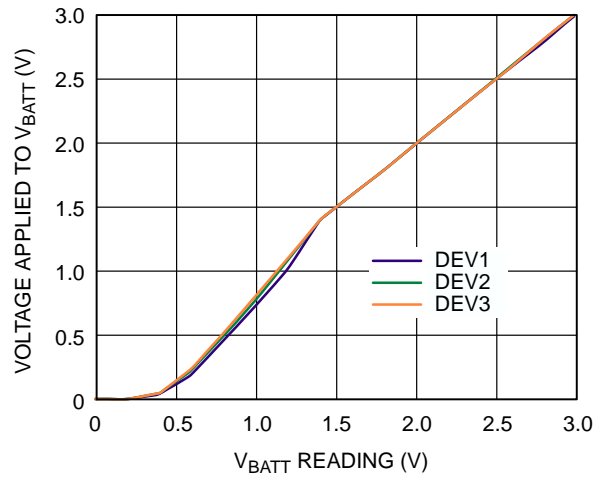

Figure 16. Applied Voltage vs.  $V_{BATT}$  Reading
- Note that this specification does not apply if Pin 26 ( $V_{BATT} + 1.2\text{V}$ ) is being measured in single-channel mode. See Figure 16 in the Typical Performance Characteristics section for  $V_{BATT}$  accuracy.